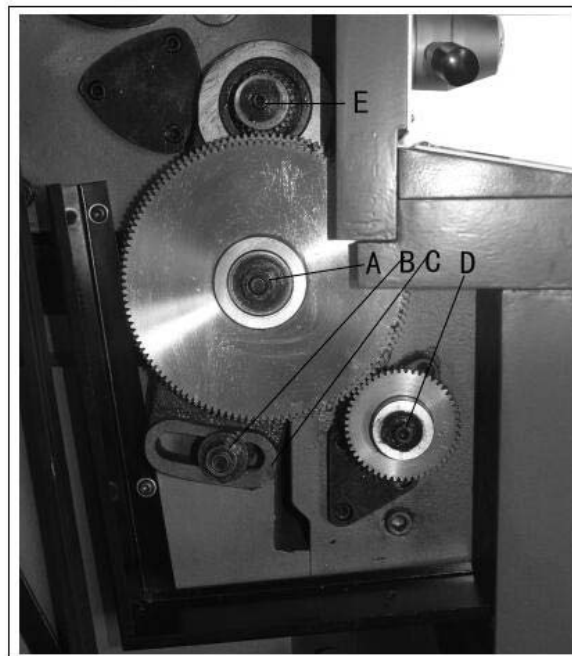
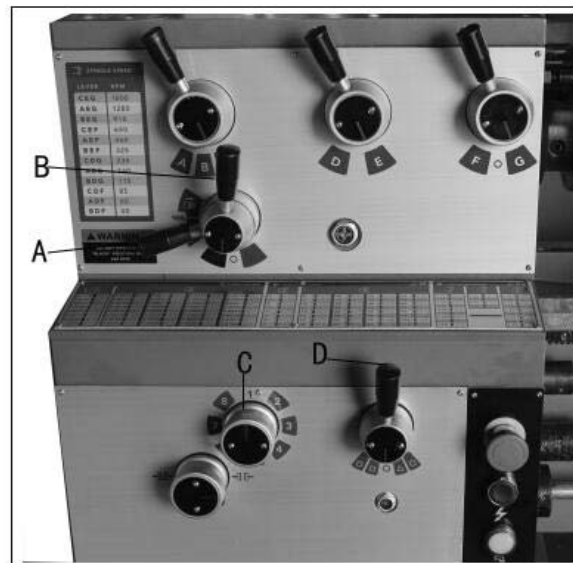

Figure 19
Figure 21
3. Loosen nuts (A & B, Fig. 19).
4. Move quadrant (C, Fig. 19) out of the way and hold in place temporarily by tightening nut (B, Fig. 19).
5. Remove hex socket cap screws (D and/or E, Fig. 19), depending on which gear is to be changed.
7. Loosen nut (B, Fig. 19), move quadrant back so teeth mesh on gears, and tighten nuts (A & B, Fig. 19).
2. Set selector levers (A, B, C, D, Fig. 21) to desired rate.
**Note:** For feeding, lever (D) will be set at "F" or "D", depending on desired feed rate.
**Note:** For threading, lever (D) will be set at "C" or "E", depending on desired thread.
3. Push lever (B, Fig. 19) to the right.